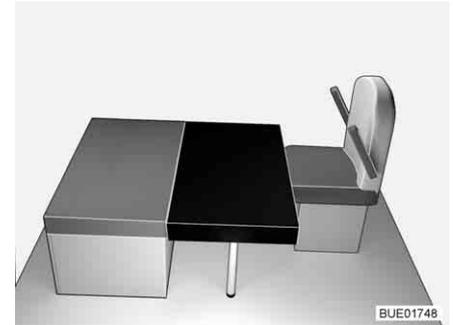

Fig. 114 After conversion
- Place the rectangular additional cushion on the table (in front of the seat cushion of the bench, see Fig. 114). When doing so, the cutout in the additional cushion is located on the frontal supporting wall.